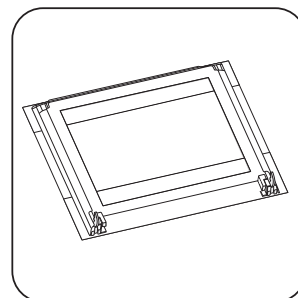

Figure 35 : Place door on soft surface
4. Put the door on a soft cloth on a stable surface (Figure 35).